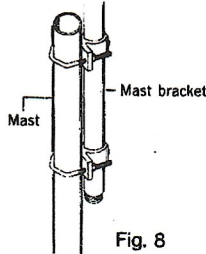

Fig. 8
- 8) Attach mast brackets on support pipe by taking whole balance into account. This section is constructed to withstand strong wind by inserting FRP outershell through the bottom of support pipe. Then, attach the antenna to a mast firmly as shown in Fig. 8. Since the antenna is rather long, to avoid an accident caused by wind blow, be sure to install the antenna with your friends and do not attempt to do it alone for your safety.